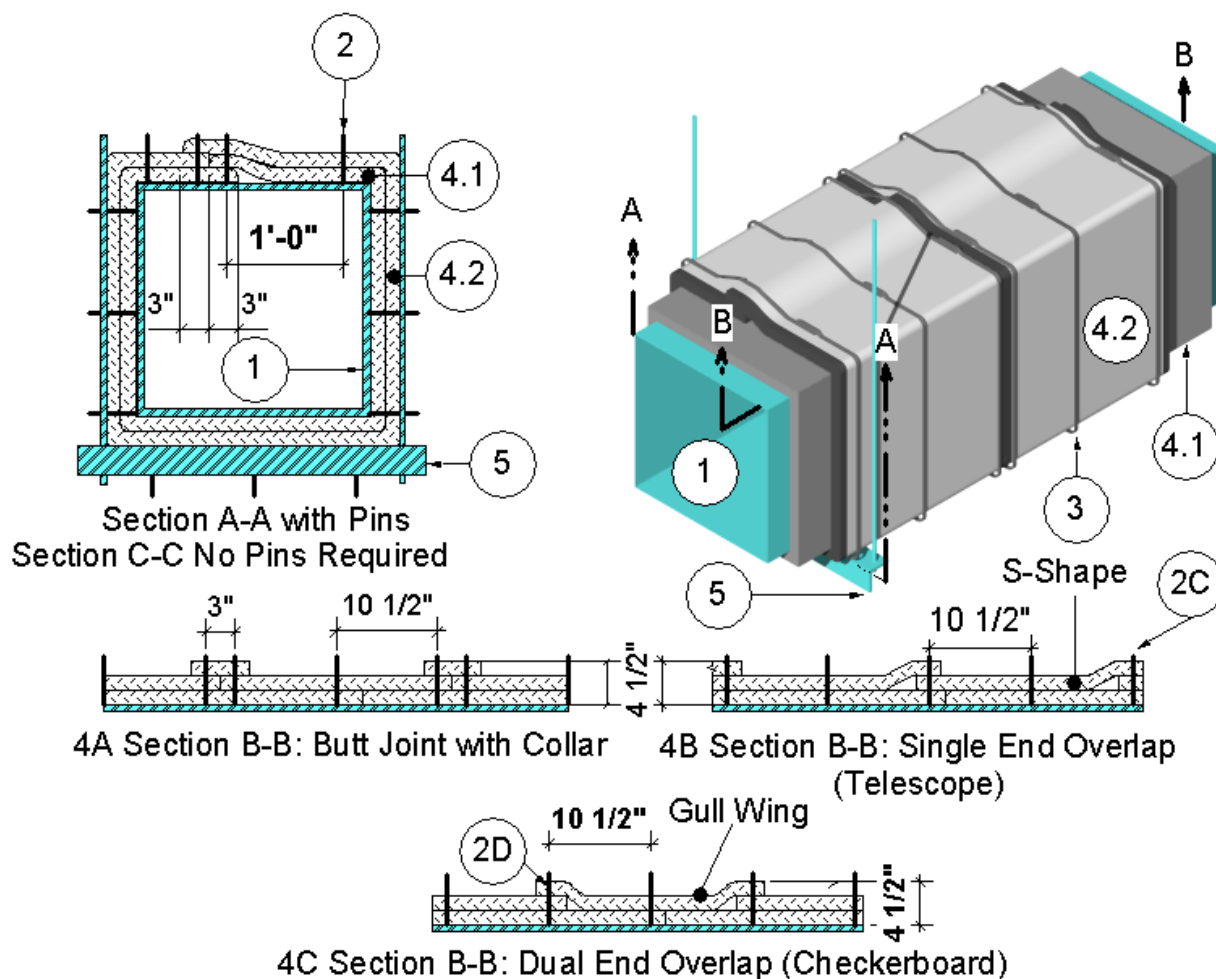

Figure 1
2. PINS: Refer to Figure 1. Use minimum 12 GA, 6-1/2 in. long, steel insulation pins or minimum 12 GA, steel cup head insulation pins. The length of the cup head pins length will vary depending on the thickness of insulation at the location of the pin. Weld pins to the grease duct (Item 1), if using cup head insulation pins, do so after application of second layer of duct insulation (Item 4). Match the following fastener method with corresponding duct insulation (Item 4) installation method.
- A. Butt Joint with Collar: Refer to Figure 1, 4A Section B-B. Locate pins at all blanket overlaps, on all sides of the grease duct (Item 1), and meet the following requirements.
- i. Space pins maximum 12 in. apart in rows around the perimeter of grease duct (Item 1). Locate pins maximum 6-3/4 in. from the edges of the grease duct (Item 1). Refer to Figure 1, Section A-A.
- ii. Space two rows of pins 3 in. apart centered directly over each transverse joint and collar, and space rows a maximum of 10-1/2 in. apart elsewhere along the length of the grease duct (Item 1), Refer to Figure 1, 4B Section B-B.
- B. Single End Overlap (Telescope): Refer to Figure 1, 4B Section B-B. Locate pins at all blanket overlaps, on all sides of the grease duct (Item 1), and meet the following requirements.
- ii. Space the rows of pins maximum 10-1/2 in. apart along the length of the grease duct (Item 1). Refer to Figure 1, 4B Section B-B.
- C. Dual End Overlap (Checkerboard): Refer to Figure 1, 4C Section B-B. Locate pins at all blanket overlaps, on all sides of the grease duct (Item 1), and meet the following requirements.
- ii. Space the rows of pins maximum 10-1/2 in. apart along the length grease duct (Item 1). Refer to Figure 1, 4C Section B-B.
- B. Banding Only Method: Use banding only method as an alternative duct insulation (Item 4) fastening method only when the grease duct (Item 1) width and height are both less than or equal to 24 in.. After second layer of duct insulation (Item 4) is installed, apply banding. Locate bands 1-1/2 in. from each edge of the duct insulation (Item 4), centered on the overlap. For the butt joint with collar insulation method (refer to Item 4A and Figure 1, 4A Section B-B) ensure that a band is placed over the collar on each side of the joint such that the bands replace the two sets of pins (Item 2) required when using the pin (Item 2) method. For the compressed butt joint insulation method (Item 4D) ensure that banding is located nominal 2-1/2 in. on center from each side of the compressed joint. For insulation methods with overlapping joints (Items 4A to 4C) place additional banding in the field area between the overlaps spaced a maximum of 10-1/2 in. on center. For the compressed butt joint insulation method (Item 4D) place additional banding in the field area
between the compressed joints spaced a maximum of 9 in. on center. Refer to Figure 1, Section C-C. No pins (Item 2) are required when this banding option is used.
DUCT INSULATION: Apply two layers of the nominal 1-1/2 in. thick, 6-pcf density duct insulation over the entire surface of the grease duct (Item 1). Apply the first layer of duct insulation with transverse joints butted and longitudinal joints overlapping a minimum of 3 in.. Offset the second outer layer (Figure 1, 4.2) one half the width of the inner first layer (Figure 1, 4.1) so that the joints of the inner first layer (Figure 1, 4.1) are covered by and approximately in the center of the second outer layer (Figure 1, 4.2). Apply the second layer (Figure 1, 4.2) using one of the methods (A, B or C) described below. Use blanket, available in various widths, that is fully encapsulated or single faced with a polypropylene-foil scrim. Expose a foil-faced side of duct insulation to view. Wrap one layer of insulation around the grease duct (Item 1) perimeter so that each terminating end of duct insulation overlaps onto the starting end of duct insulation a minimum of 3 in. at all longitudinal joints. Stagger the longitudinal overlap location so that no two consecutive adjacent overlaps align. Refer to Figure 1, 4A Section A-A for transverse overlap section view. Cover all visually-exposed ends and edges of duct insulation with nominal 4 in. wide, pressure-sensitive, aluminum foil tape.
A. Butt Joint with Collar: Refer to Figure 1, 4A Section B-B. Wrap the grease duct (Item 1) with two layers of duct insulation installed with butt joints at all circumferential joints. Apply the first layer, center pieces of duct insulation over 3 in. wide pin bay. Butt
Refer to Figure 1, 4B Section B-B. Wrap the grease duct (Item 1) with two layers of duct insulation. Install first layer of duct insulation with transverse joints butted and longitudinal joints overlapping a minimum of 3 in.. Install second layer using the following installation technique:
- i. Starting at one end of the grease duct (Item 1), apply the first piece of duct insulation around the grease duct (Item 1) overlapping on itself by minimum 3 in. which must be located at the pins (Item 2). Refer Figure 1, Section A-A.
- ii. Position and overlap the leading edge of the second piece of duct insulation nominally 3 in. over the flush edge of the first piece of duct insulation. Place the opposite edge of the second piece of duct insulation flush against the surface of the first layer of duct insulation. An "S-shaped" cross section of the duct insulation is created. Refer to Figure 1, 4B Section B-B.
C. Dual End Overlap (Checkerboard): Refer to Figure 1, 4C Section B-B. Apply the first layer of duct insulation with transverse joints butted and longitudinal joints overlapping a minimum of 3 in.. Install second layer using the following installation technique: After installation, verify all duct insulation overlaps are three layers of duct insulation in overall thickness.